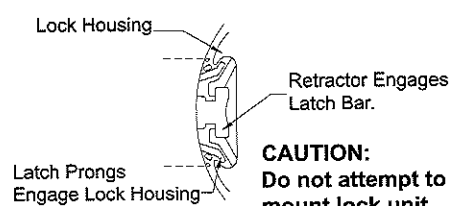

Figure 1
- For ease of installation, lock should be in the unlocked position.(Figure 1)